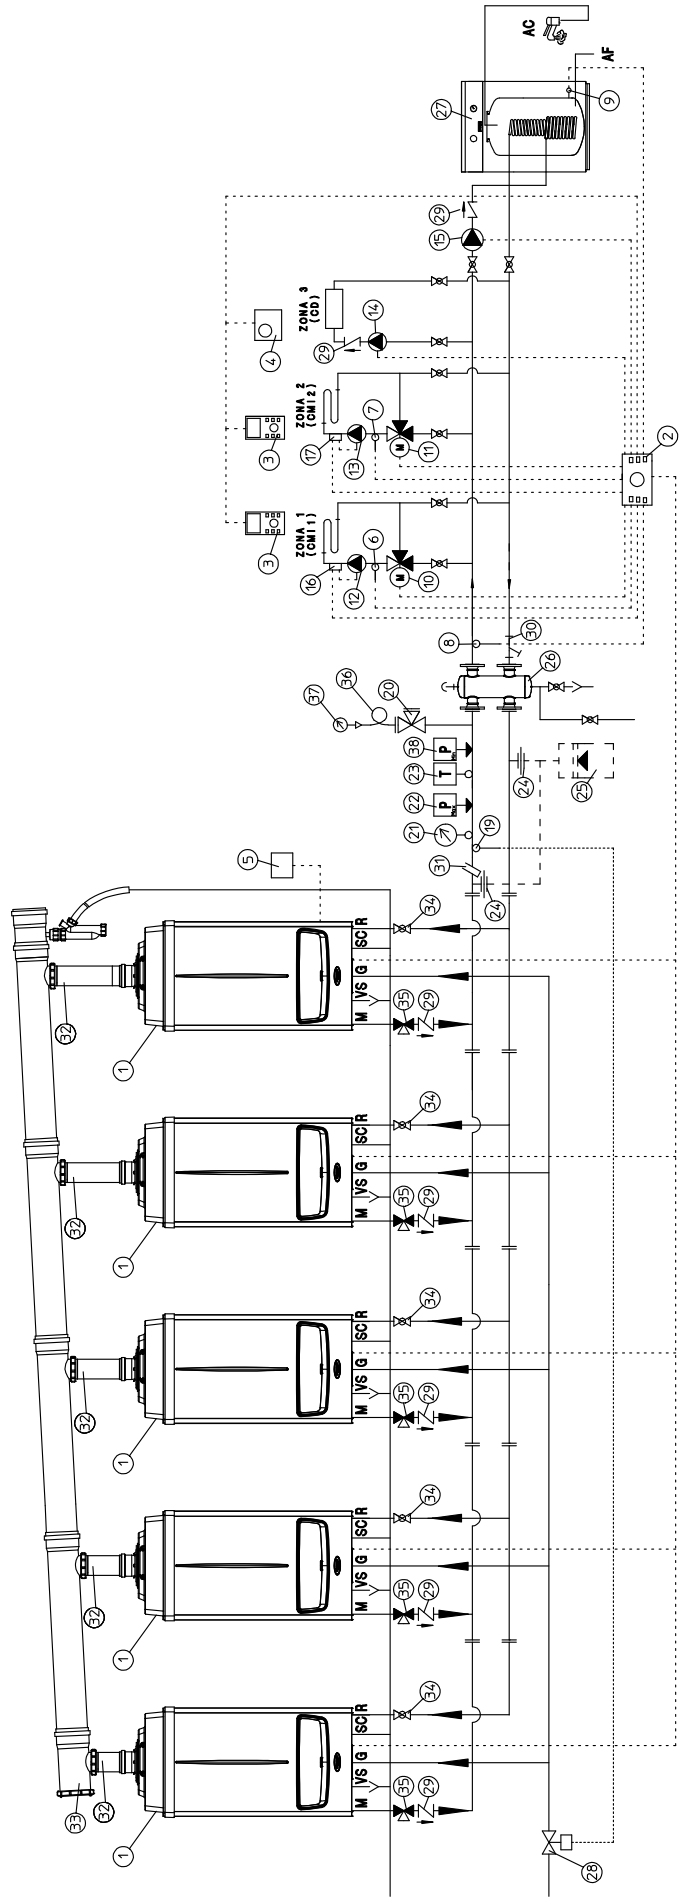

Fig. 5
N.B.: before closing one or both the system cut-off cocks (34) figure 5, the boiler must be switched off.